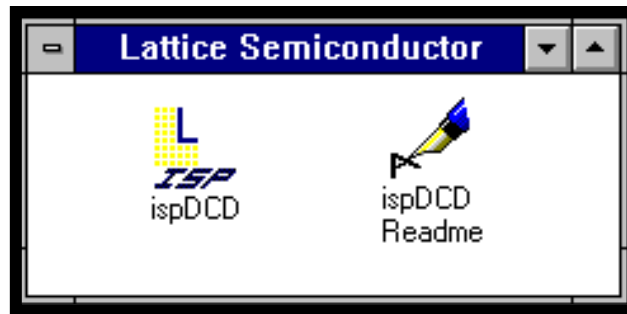

Figure 1-1. The Lattice Semiconductor Group
2. Select the Lattice Semiconductor Group to display the icons (Figure 1-1).